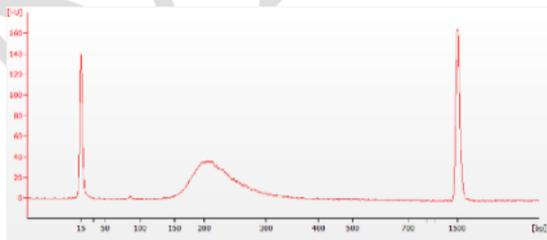

Figure 2 Agilent 2100 Bioanalyzer Fragment Size Distribution Results of the Purified PCR Product
- 3.9.2 Assess the fragment size distribution of purified PCR products with electrophoresis-based equipment such as a Bioanalyzer, Tapestation (Agilent Technologies), LabChip® GX, GXII, GX Touch (PerkinElmer), or Fragment Analyzer™ (Advanced Analytical). Figure 2 shows the final size distribution is 150 bp–300 bp.